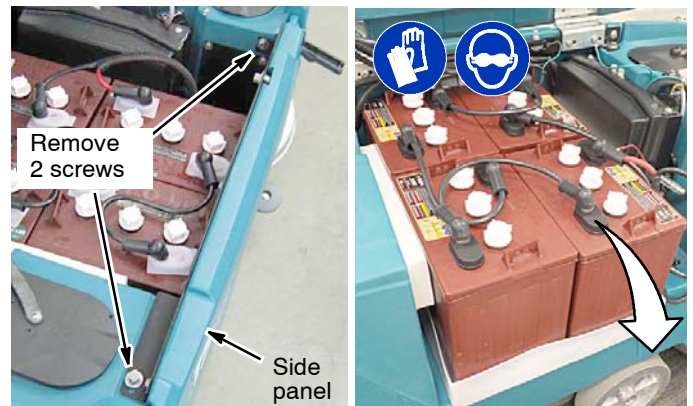

FIG. 1
3. Remove right-side panel and carefully remove the two front batteries from machine (FIG. 1). For IRIS models manufactured after February 2017, battery removal is not required. Disconnect battery cables from the machine before installing kit.